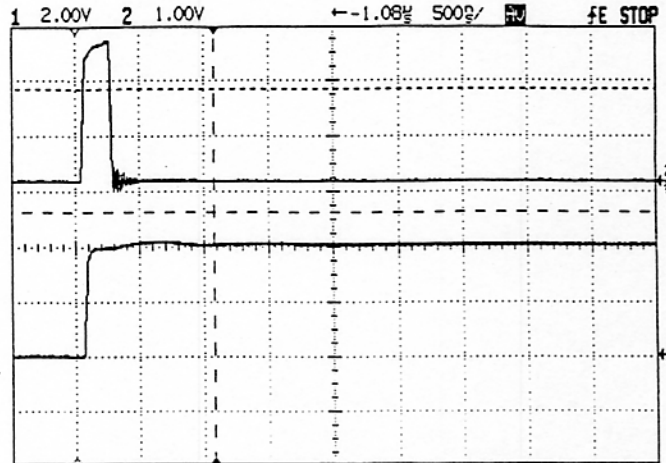

Fig.6.2
**Sync out:** A fast rising positive 4 volt pulse of 200 ns duration used to trigger an oscilloscope or other data recording instrument. Fig. 6.2, top trace show the sync pulse coincident with the beginning of the B pulse (lower trace).